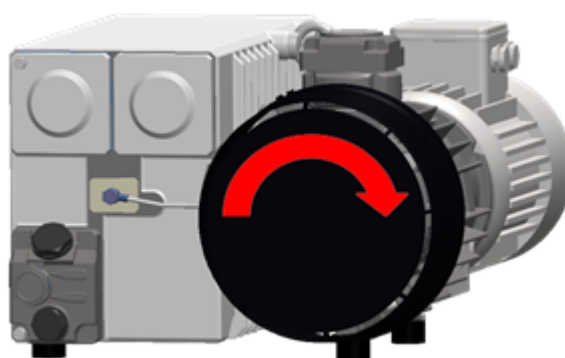

Figure 7: Direction of Rotation of the Vacuum Pump
4. Check the correct direction of rotation of the three-phase model pump. See *Figure 7: Direction of Rotation of the Vacuum Pump* on page 31.